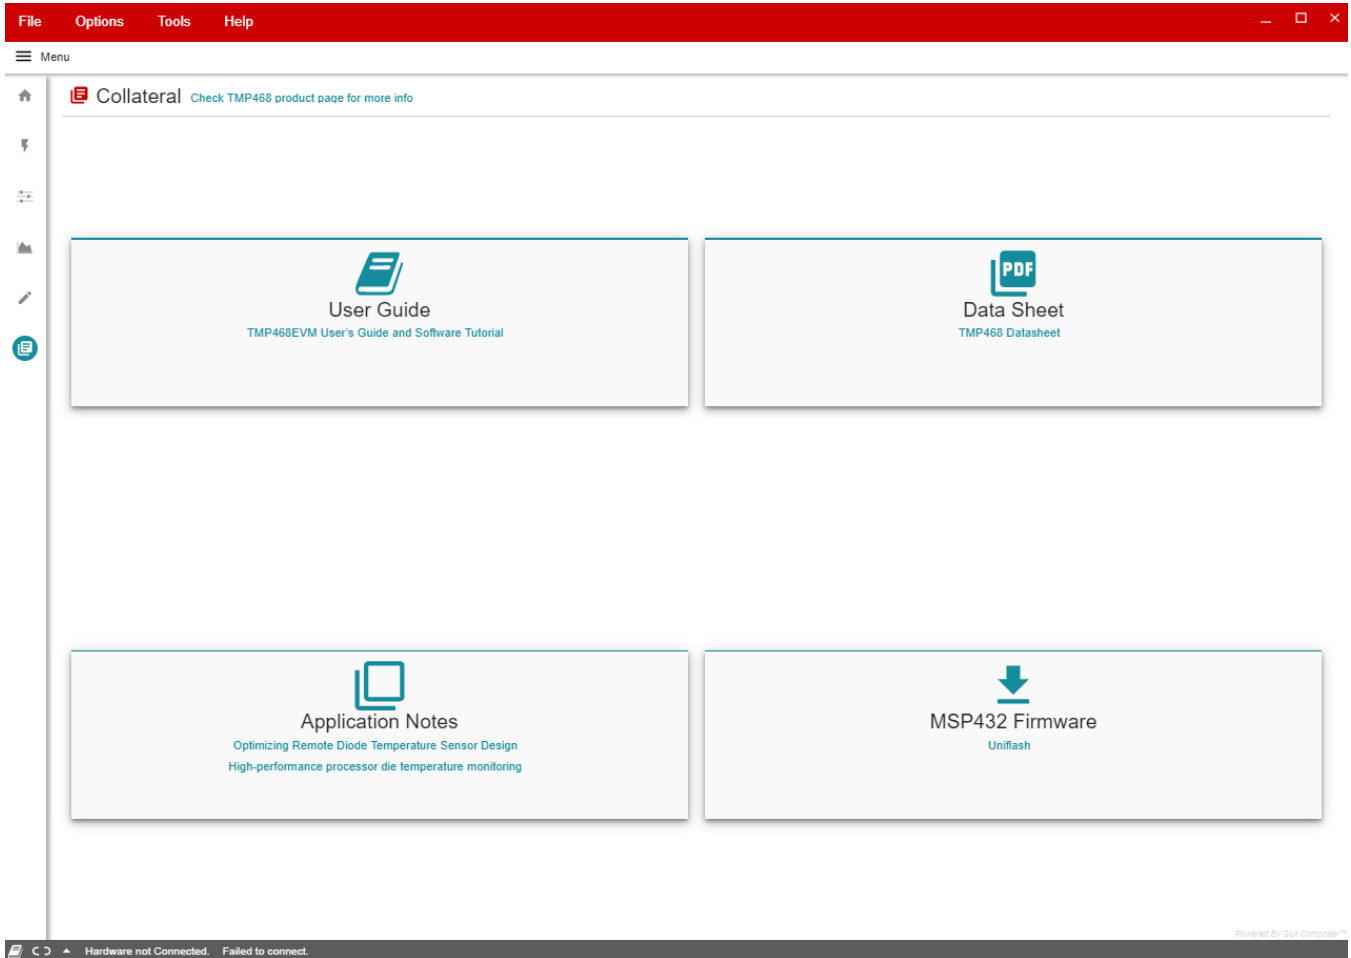

Figure 27. TMP468EVM Collateral Tab
The Collateral Tab as shown in Figure 27 contains links to web documents pertinent to the TMP468EVM. The page is divided into four sections: (1) User Guide, (2) Datasheet, (3) Application Notes, and (4) MSP432 Firmware.